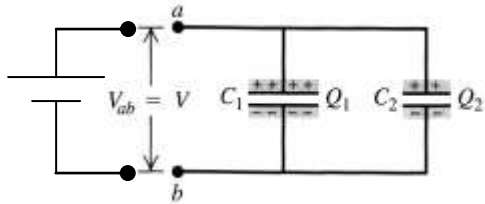

Fig.4
-Figure 4 presents the scheme of two capacitors connected *in parallel*. In this case, the same difference of